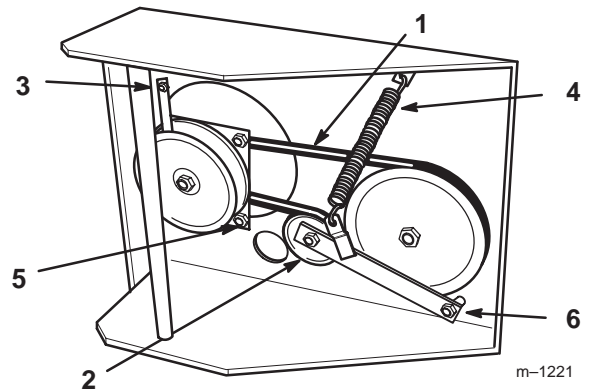

Figure 38
4. Remove left front engine mounting bolt securing clutch retainer to frame (Fig. 38). Unhook retainer from clutch and remove retainer.
5. Unhook tension spring from side of frame (Fig. 38).
8. Torque pivot bolt to 35-40 ft.-lb. (47-54 N.m). Install tension spring between idler arm and frame bracket (Fig. 38).